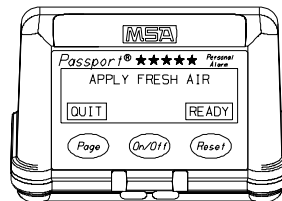

Figure 2-3.
- Display prompts you for Fresh Air (FIGURE 2-3).